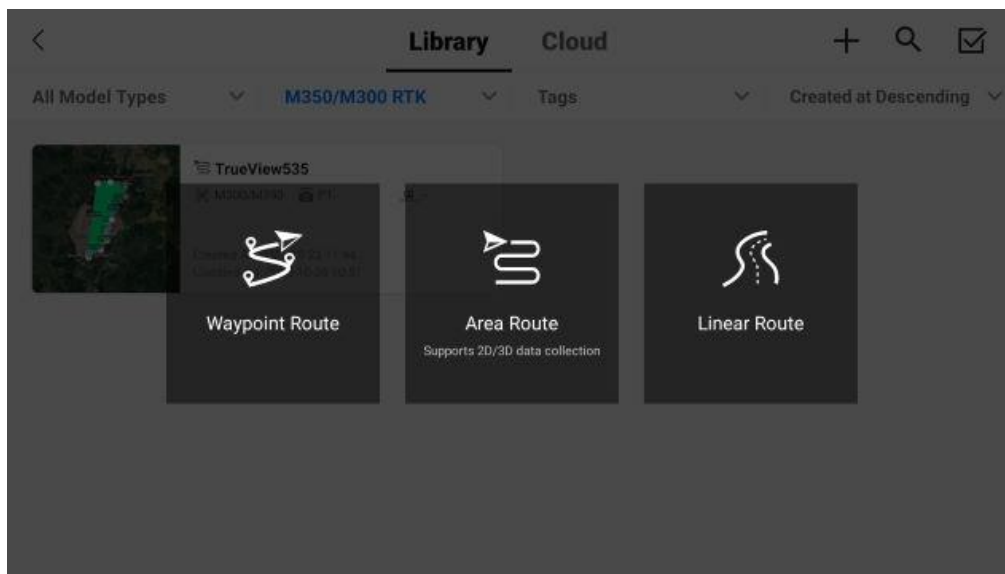

Figure 34: Mission planning options in Pilot 2
- There will be a “Mission Start” menu on the right side of the page (Figure 34). This is basically your mission settings that will be applied to all waypoints. Set the initial waypoint altitude to your planned mission flying height. Set the Flight Speed to 5 m/s (11.2 mph). The camera and Vehicle Info settings are irrelevant. Launch position should be automatically set to the ground level.